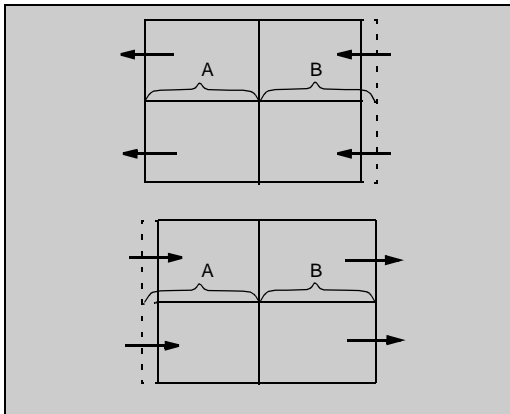

Figure 45. **Linear mode adjustment**
7. Adjust linearity by pressing VOL right-left until A=B (see figure 45)
26. Adjust Horizontal linearity (see figure 45)